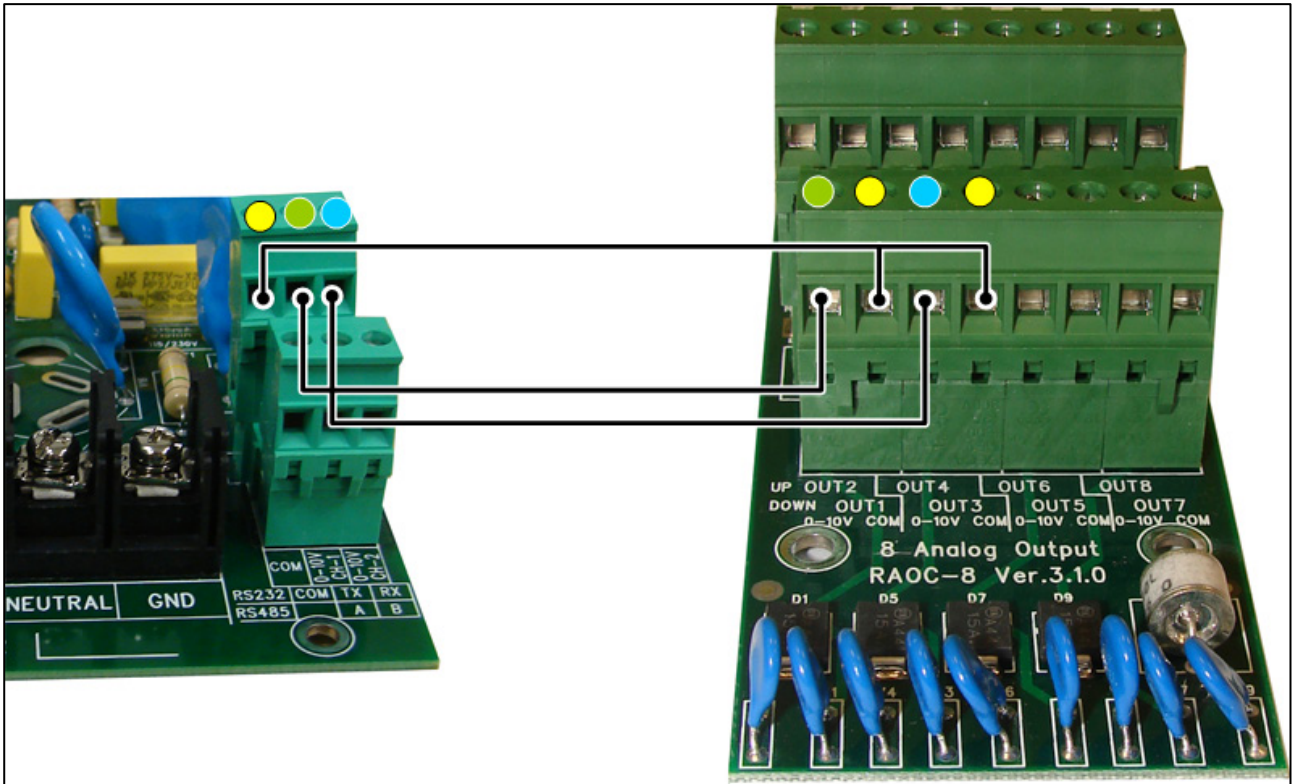

Figure 6: RLD (Board Version 2.1) to RAOC-8 (Analog Output) Wiring Diagram
1. Connect the 0 – 10 VDC (+) and COM (-) wires from the external device to the terminal ports "0-10V A", "0-10V B" and COM (Figure 6 and Figure 7).